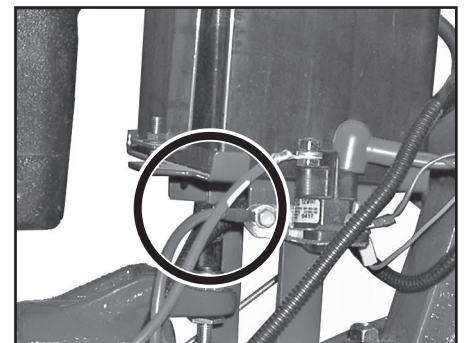

Figure 2-5C. Connect the main harness connection to the neutral safety switch.
3. Connect the tiller's main harness connection to the neutral safety switch receptacle, Figure 2-5C.